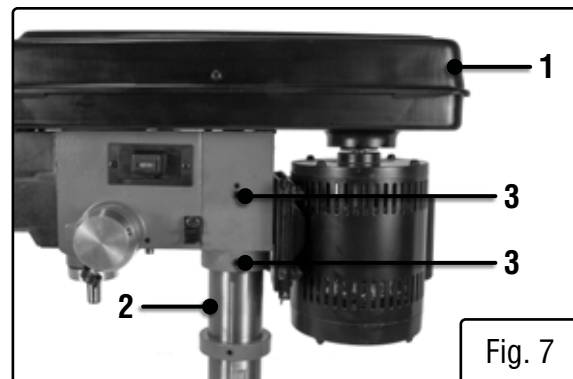

Fig. 7
DRILL PRESS HEAD TO COLUMN (FIG. 7)
1. Carefully lift the drill press head assembly (Fig. 7 - 1) and position it over the column (Fig. 7 - 2).
4. Tighten the set screws (Fig. 7 - 3) using a hex wrench.